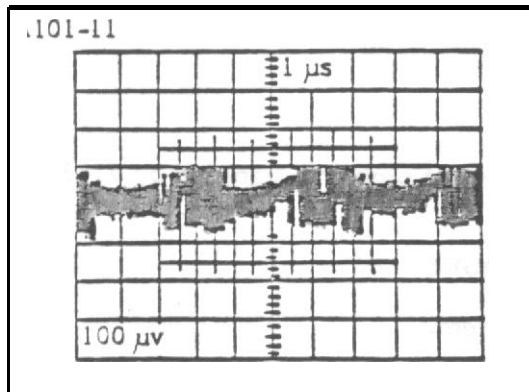

Figure 1. Output Signal
- c. Adjust head-adjust screw **clockwise** or counter-clockwise and look for a signal of 300MV or greater (The manual's reference to a 50MV signal is incorrect and will be corrected in the next revision of the manual.). Refer to Figures 1 and 2 on the following page for examples of waveform patterns before and after head alignment. (If signal stops, rewind tape and press PLAY again. Repeat procedure as necessary until alignment is complete.)